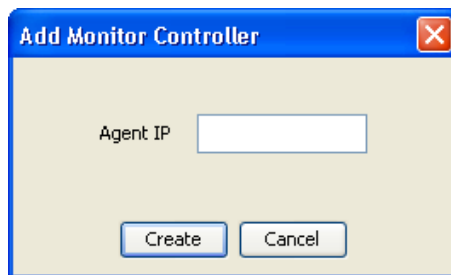

Fig. 4.18 Adding RAID Agent IP
3. Enter the IP address of the array you wish the Root Agent to manage. Click OK to complete the process. An example is shown in *Figure 4.18*.